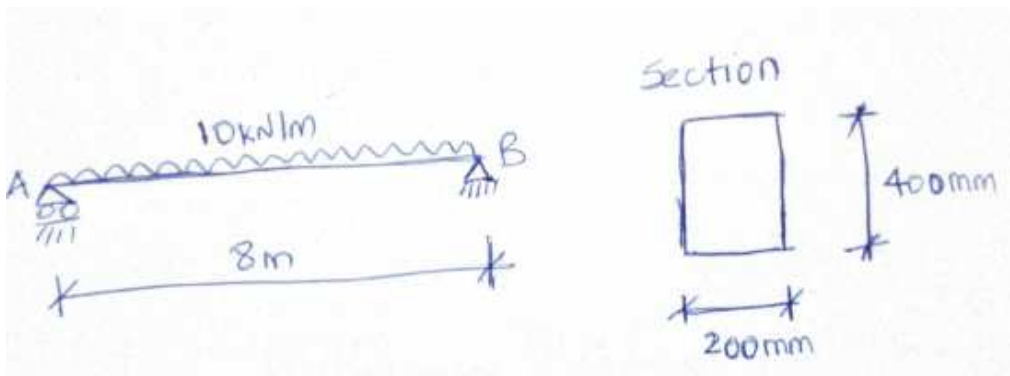

Figure 2
- Fig. 2 below shows a beam loaded as shown. The cross section is as shown. At interval of 25 mm along the depth plot the shear stress distribution along the depth of the cross section at support A.